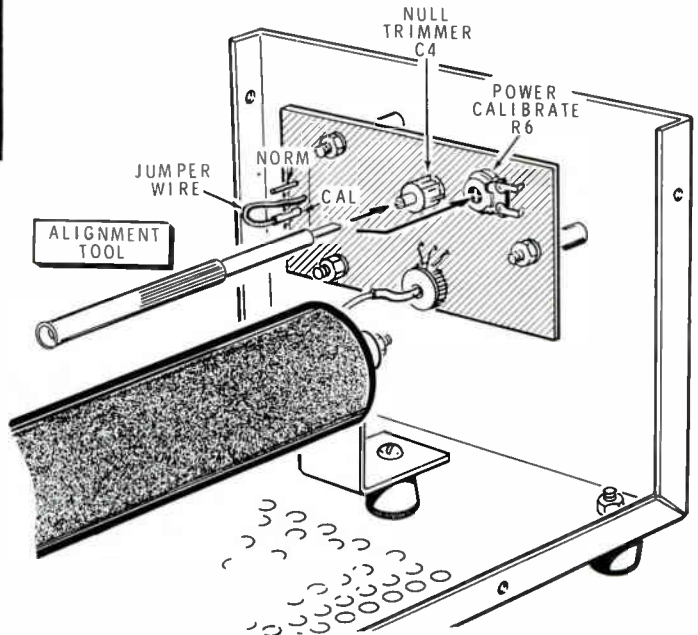

Figure 2
- (✓) Connect the CALIBRATION jumper on the circuit board to the CAL pin (see Figure 2).
- (4) Set the transmitter to the TUNE or CW mode, tune the transmitter, and watch the RF POWER METER needle. If the meter needle does not move up-scale, carefully increase the transmitter output. If the meter needle does not move up-scale at 1/4 output, adjust NULL trimmer C4 for a reading. If there still is not a reading, refer to the "In Case of Difficulty" section of this Manual.
- () Refer to Figure 2 and adjust NULL trimmer C4 on the circuit board for the best null or greatest dip of the meter needle. This reading should be at or near zero. NOTE: Use only the alignment tool (nut starter) for this adjustment.